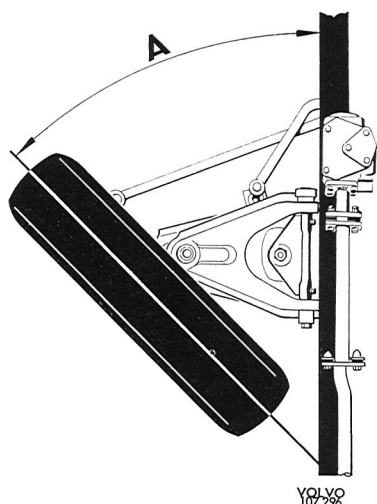
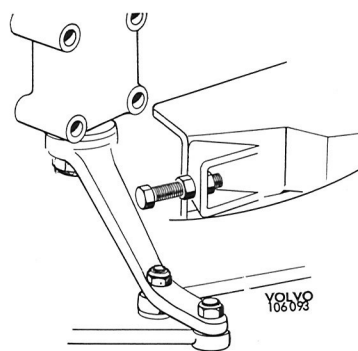

Fig. 6-11. Adjusting max. wheel lock
Fig. 6-12. Adjusting screw, max. wheel lock
Turning of the wheels is limited by stop screws at the pitman arm (Fig. 6-12) and at the relay arm. Adjust as follows:
1. Turn the left wheel for a left hand turn as far as it goes. Check the wheel lock according to Fig. 6-11. If the lock is not as in this figure, then adjust to this angle with the adjusting screw (Fig. 6-12).